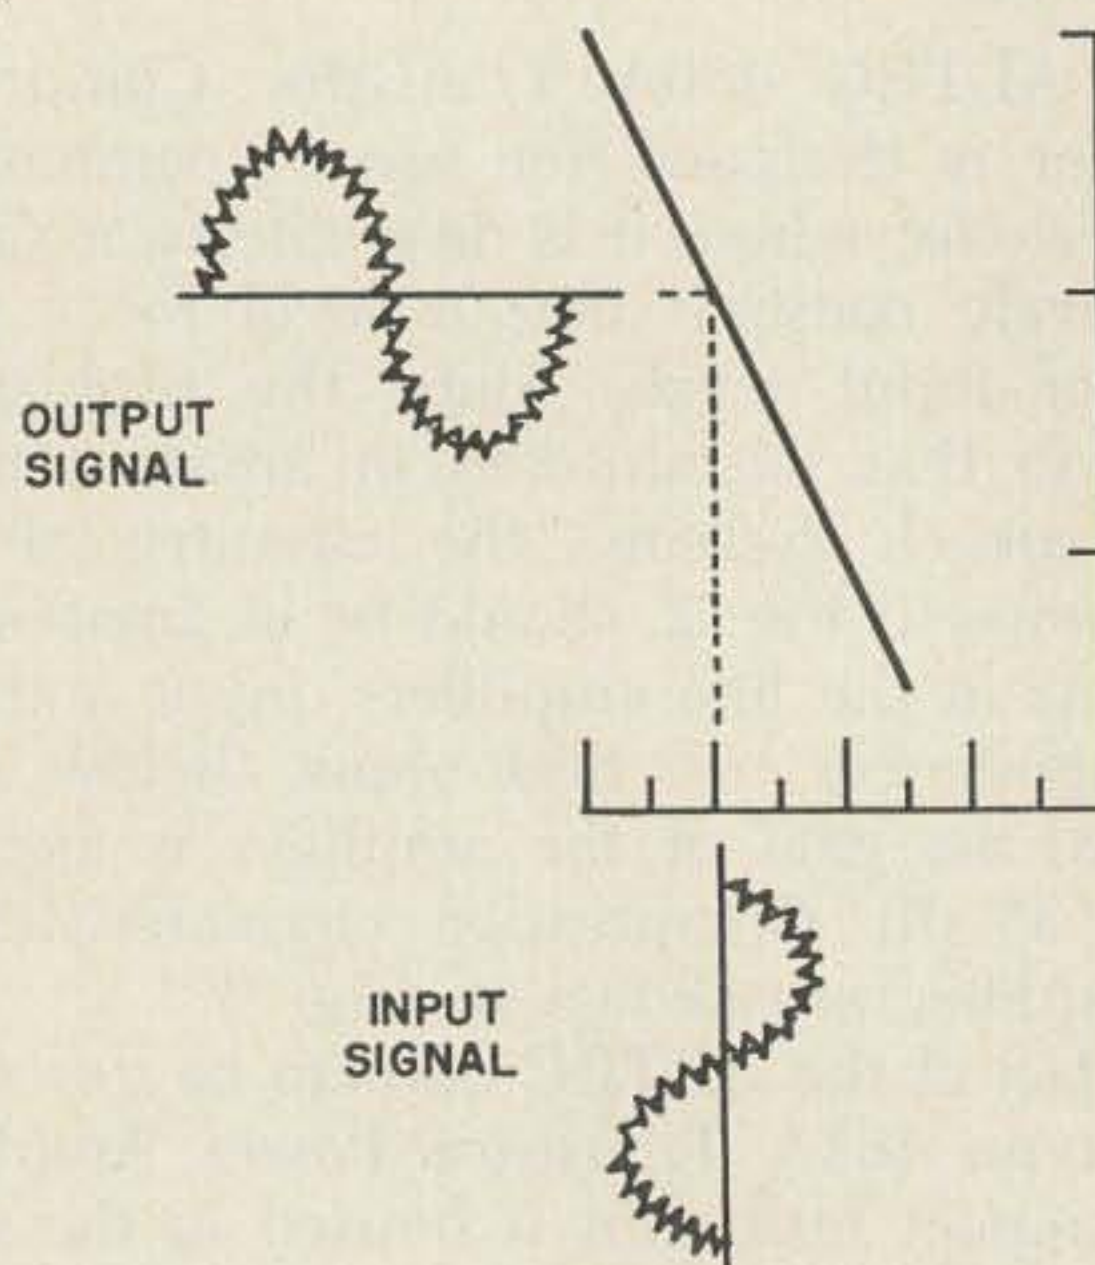
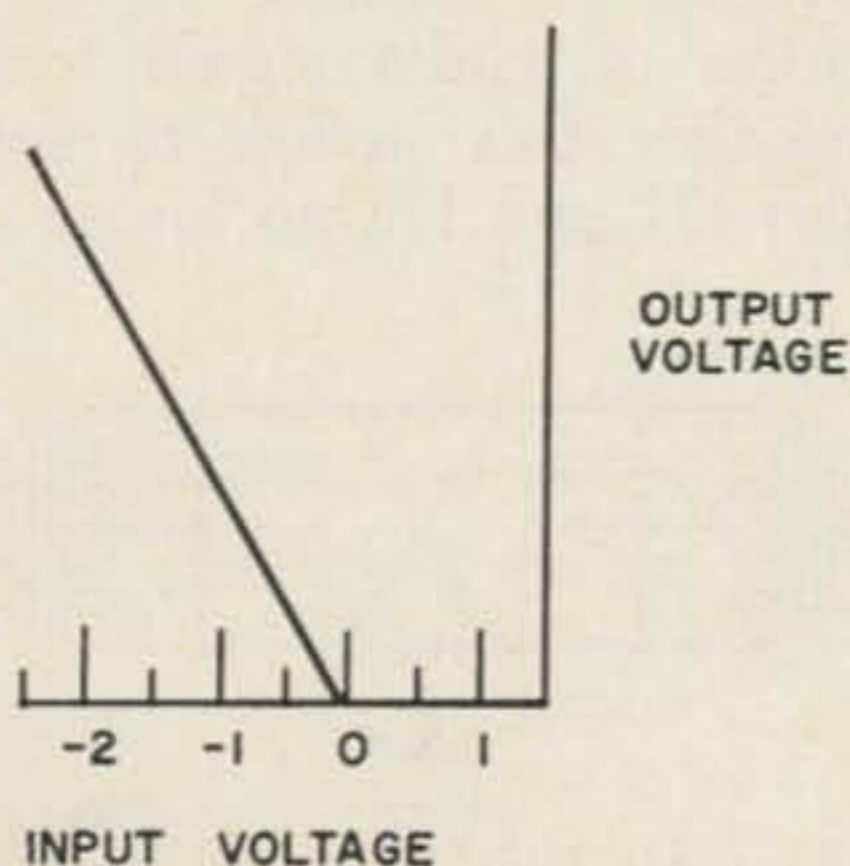

FIG. 2
FIG. 3
**Fig. 2 Schematic of the ALTEC 460A Transistor Compressor Amplifier. While designed for telephone repeater service, the circuit is ideally suited for amateur transmitter applications. Output level varies less than 20 db for an input range in excess of 50 db.**
**Fig. 3 Performance curve of the ALTEC 460A Compressor Amplifier. While designed for automatic equalization of telephone circuit levels, it is ideal for amateur speech applications.**
The ALTEC 460A Transistor Compressor Amplifier is designed for use in communications systems, where it is desirable to maintain a relatively constant output level for a wide range of input levels. Since the problem is similar to that encountered in amateur transmitter speech systems, the circuitry of this unit, shown in Fig. 2, should be of amateur interest. As in the line amplifiers, input and output impedances are 600 ohms. Below compression, the gain of the amplifier is approximately 35 db. Compression characteristics of this amplifier are shown in Fig. 3.
Now, let's put two ac tones into the input of this amplifier (Fig. 2). The two tones are completely separate, and as a result neither of them is true ac; the higher-frequency tone "rides" the lower-frequency one. So far as the higher tone is concerned, the lower tone is its zero-voltage reference. But since the amplifier is linear, the tones come out unchanged.
At this point, let's take a look at the transfer characteristic of a perfect diode. It's shown in Fig. 3. Note that, unlike our amplifier, this characteristic is *not* a straight line. It has a sharp break in it; the sharper the break, the better the diode.